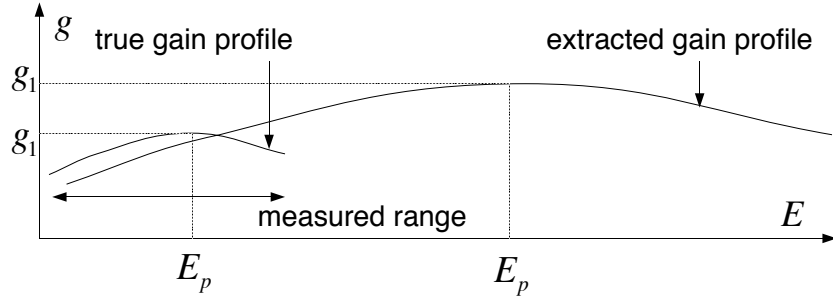

Fig. 4: gain profile
5. Open the file **dfb.new** to see the value of extracted parameters. You find that net gain curvature is negative, and gain peak wavelength is too far from bragg wavelength. It is because that gain is expressed in three parameters, $g = \underline{g_1} + \underline{g_2}(E - \underline{E_p})^2$. When range of measured wavelength (12[nm] in example8) and net gain curvature is small, gain parameters cannot be extracted correctly. But the value of gain at measured wavelength are roughly correct (Fig.4).